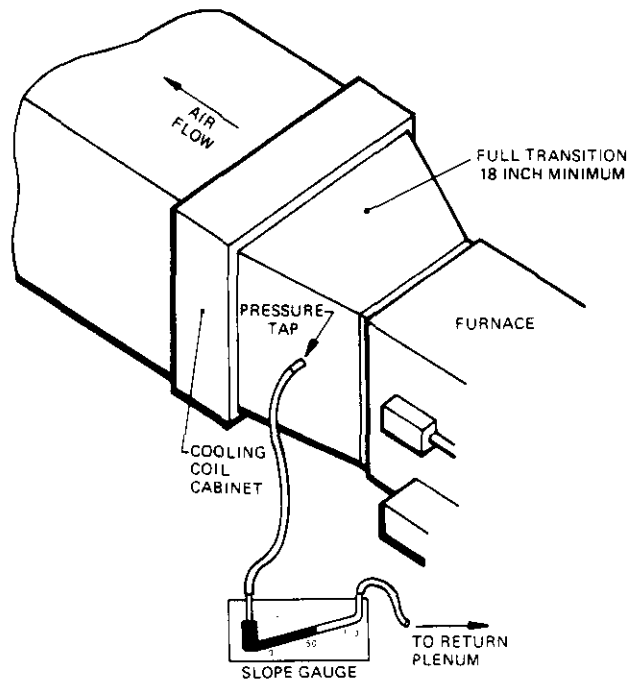

Figure 54 (4-027)
2. Insert one static pressure tap into transition duct between furnace and cooling coil. Insert tap into warm air supply plenum on heating-only applications. Insert a static pressure tap in return air plenum. See Figure 54.
3. Connect pressure tap attached to transition duct (warm air supply plenum) to positive pressure side of slope gauge (bottom of scale) See Figure 54. Use flexible tubing.
4. Connect pressure tap attached to return air plenum to negative pressure side of slope gauge (top of scale). See Figure 54. Use flexible tubing.